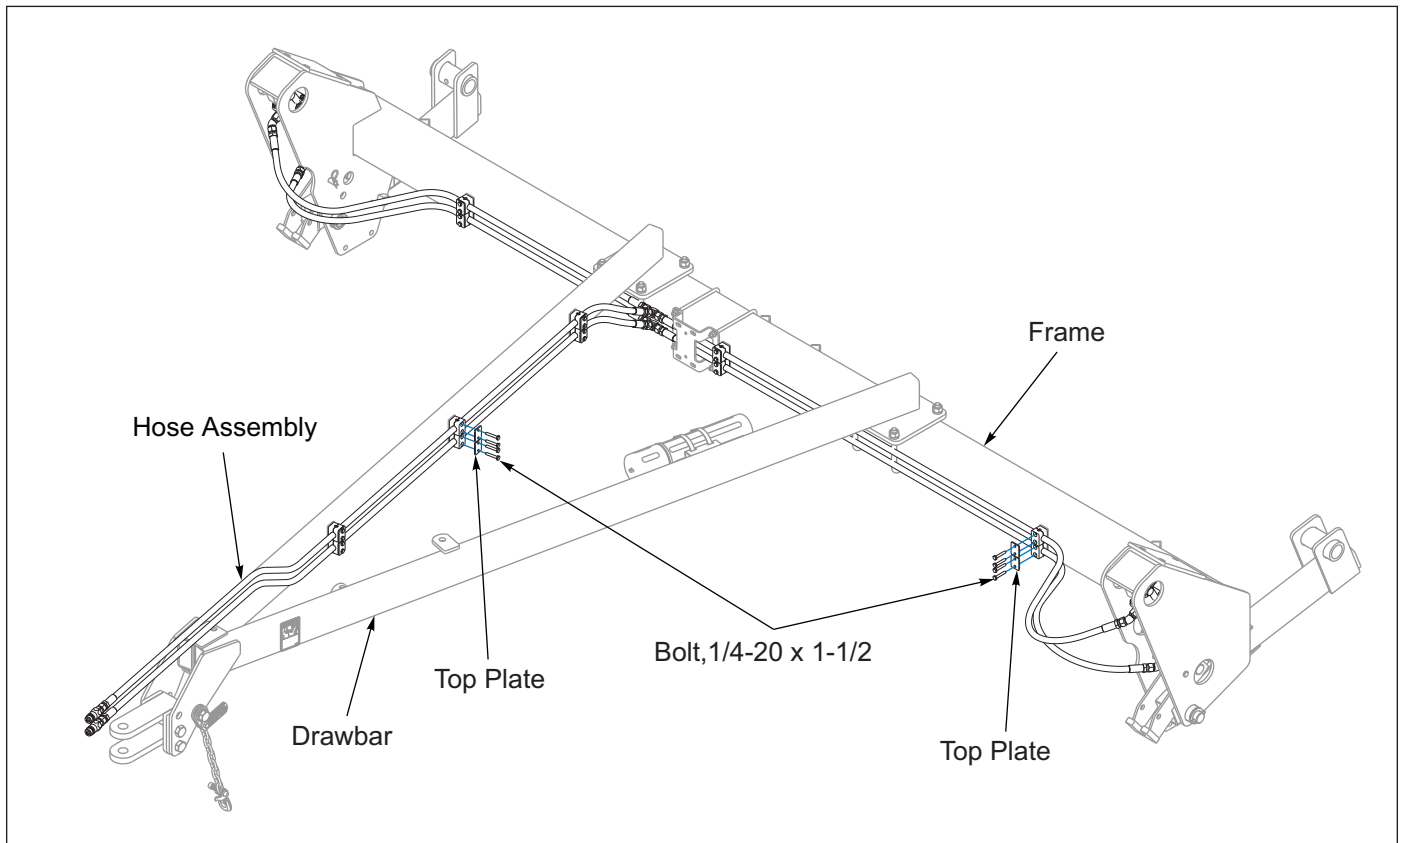

Figure 2-16: Drawbar Hydraulic Hoses (Before 08/2025)
2. Route the Drawbar Hydraulic Hoses along Drawbar toward the Tractor. Secure Hoses to Drawbar with Hose Clamp Pairs, Top Plate and 1/4-20 x 1-1/2 Bolt. **See Figure 2-16.**